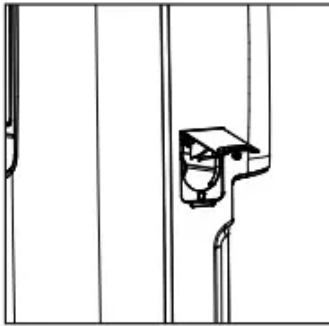
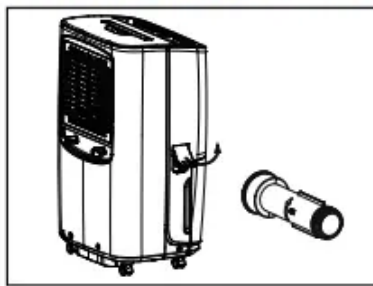

fig. 1
fig. 4
- a. Open the drain cover at the side of the unit, so the drainage connector could be found inside. (fig.1) Take out drainage adapter from the top of the styrofoam packaging. (fig.4)